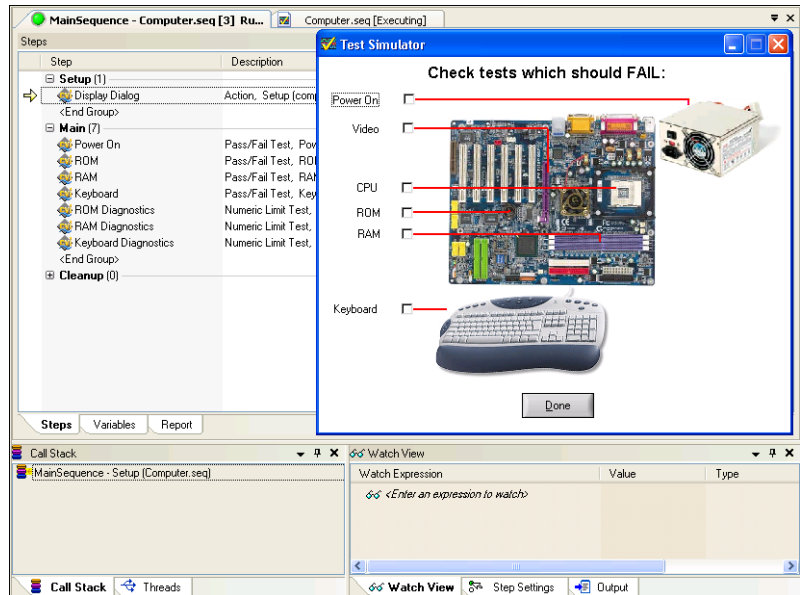

Figure 2-3. MainSequence Execution Window
1. Select **Execute»Run MainSequence**. The sequence editor opens an Execution window to show the sequence as it executes. The first step in the Setup step group of `MainSequence` launches the Test Simulator dialog box, as shown in Figure 2-3. The Test Simulator dialog box prompts you to designate the computer component(s), if any, you want to fail during the execution.